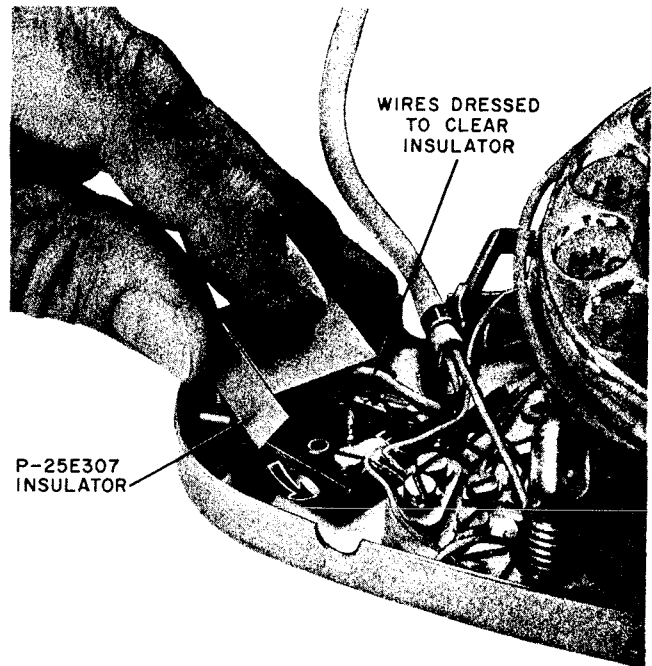

Fig. 11 — Placing Insulator Over Terminal
- (1) Remove telephone set housing.
- (2) Dress all leads to prevent wiring from being caught between weight and base of set.
- (3) Install P-25E307 insulator as shown in Fig. 11.